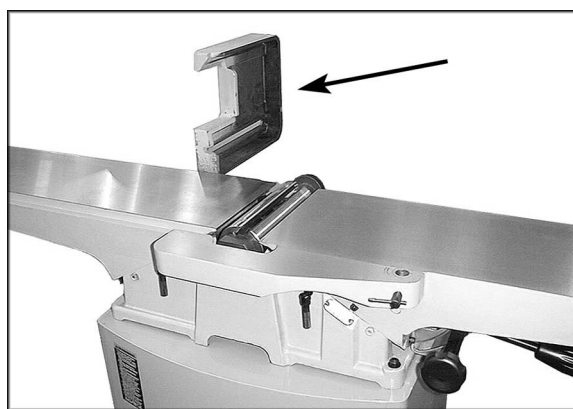

Figure 34
6. Loosen the two socket head cap screws on the fence support and pivot the fence support out of the way (Figure 34).